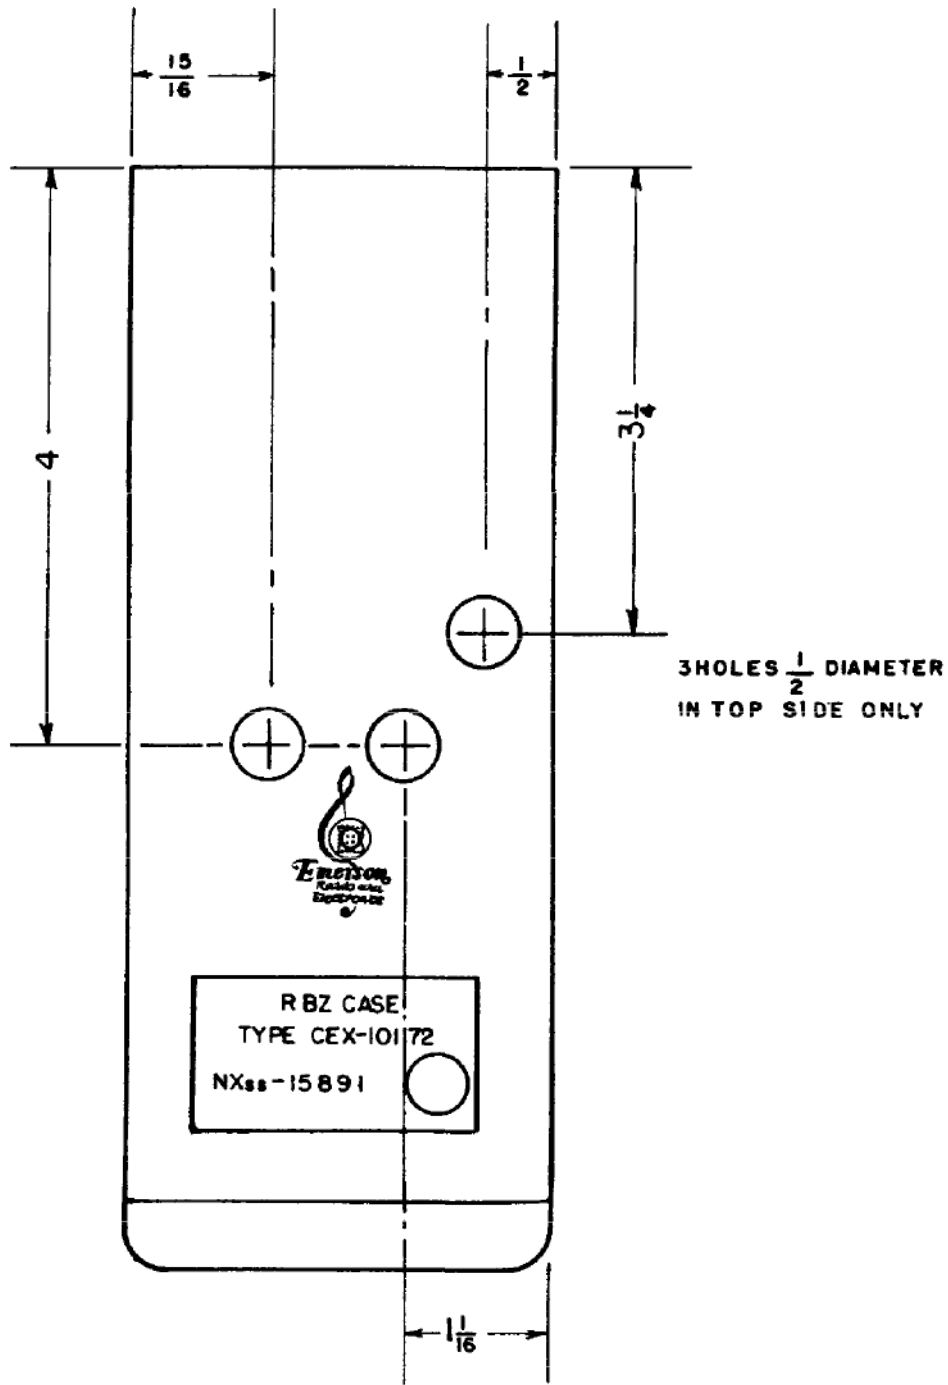

Figure 6—Dummy Case for R.F. Alignment—dimensional detail
7. 1 dummy alignment case with holes drilled for access to Ant. R.F. and Osc. trimmers (C-15, C-16 and C-17). See Figure 6.